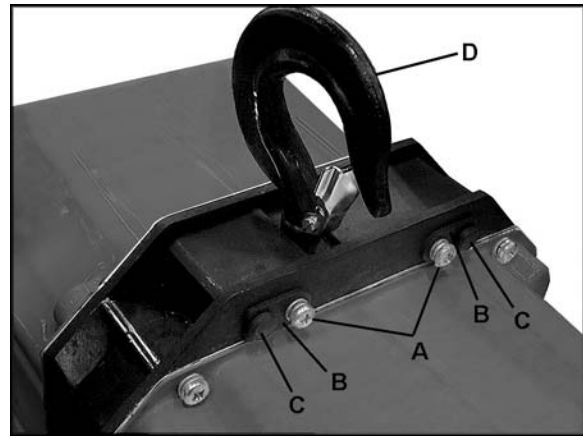

Figure 1
1. Remove the two screws, lock washers and flat washers (A, Figure 1), the hook-pin plates (B) and the hook pins (C).
2. Place the top hook assembly (D) into position between the body plates, and re-install pins, hook-pin plates, screws and washers. Firmly tighten the screws.